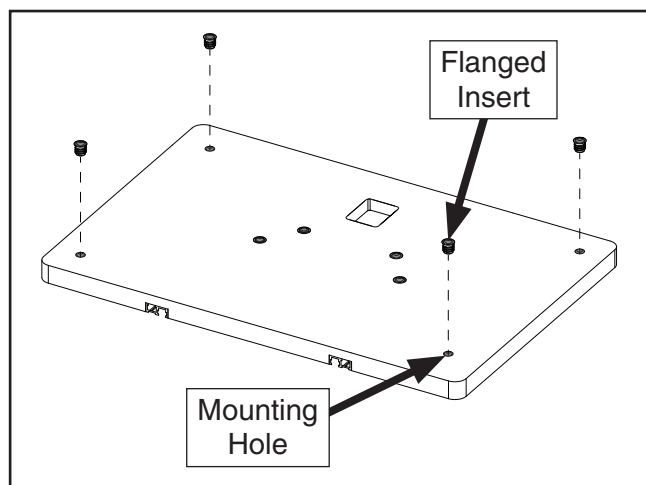

Figure 17. Flanged inserts installed in mounting holes.
14. Install (4) $\frac{3}{8}$ "-16, $\frac{9}{16}$ " x $\frac{1}{2}$ " flanged inserts in holes so they are flush with table surface (see **Figure 17**).